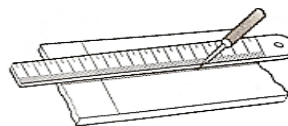

Figure 2
10. Identify the task shown in figure 2 below.